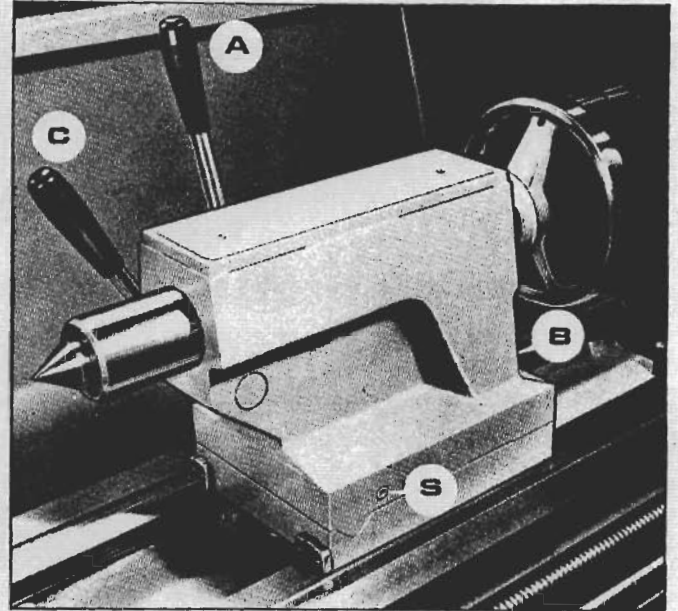
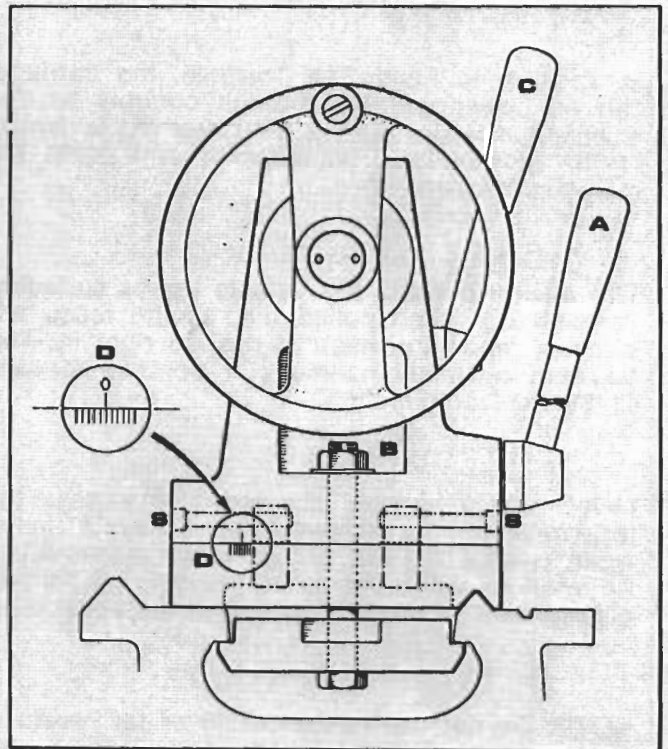

Fig. 15
Fig. 16
The tailstock barrel is locked by lever (C), see Fig. 15.
The tailstock can be set-over for production of shallow tapers or for re-alignment. Release the clamping lever and adjust screws (S) at each side of the base (Fig. 15) to move tailstock laterally across the base. An indication of the set-over is given by the datum mark (D) at the tailstock end face, as shown in Fig. 16. Apply clamp lever after adjustment of set-over.